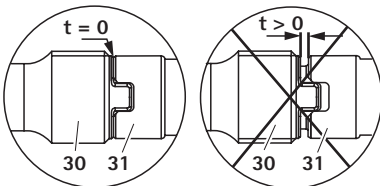

Fig. 15 Correct engagement of sub-assembly and outer sheath
- ▶ Visually verify that both components (**30** and **31**) are fully engaged, see Fig. 15.